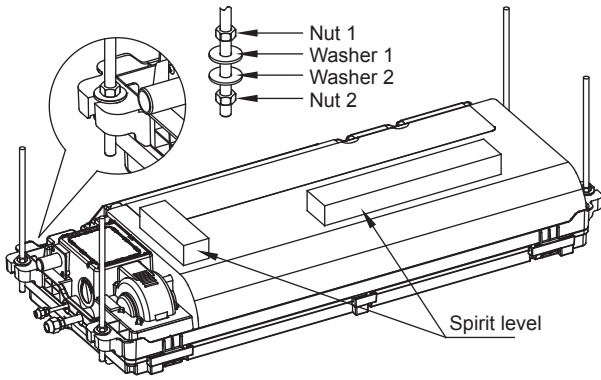

Figure 4.8
2. Once you have lifted and mounted the unit, use M6x12 screws (accessory Installation screws for panel) to secure the installation board (accessory installation paper) on the unit body. Make sure you verify the size and positions of the opening in the ceiling before you do so. See Figure 4.8.